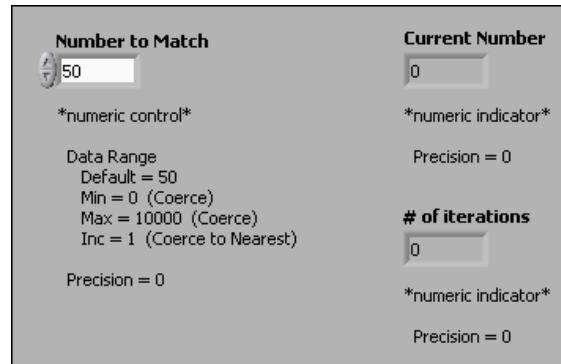

Figure 4.5
1. Open a blank VI and build the front panel shown in Figure 4.5. Modify the controls and indicators as shown in the front panel (Figure 4.5) and as described in the following steps (pg 76).